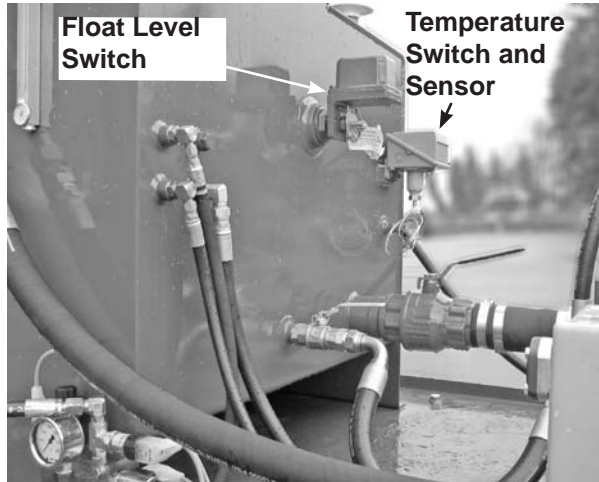
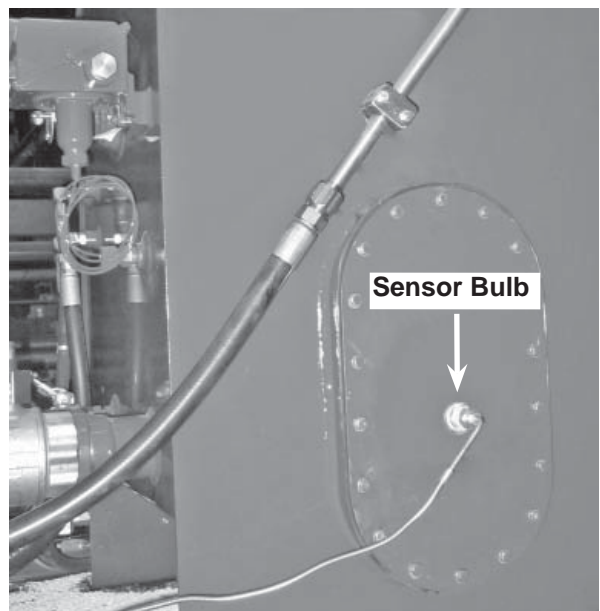

Figure 13 - Temperature and Float Level Switch
Figure 17 - Oil Temperature Sensor Bulb for Heat Exchanger
**Emergency motor stop and low oil shutdown** The emergency motor stop switch and low oil shutdown float switch (see Figure 13 page 6) are connected to control box terminals 15 and 16 (see wiring diagram 903057). Connect the motor starter power as shown on 903057 to place the switches in series with the motor control circuit.
**Oil Level Float Switch** An emergency low level float switch (see Figure 13) is installed to automatically stop the pump to protect it from damage in the event of line breakage or faulty maintenance. The low level float switch is connected as shown on 903057 wiring diagram.
The Oil Cooler uses the Temperature Switch sensor Shown in Figure 13. The Oil to Water Heat Exchanger uses the Sensing Bulb shown in Figure 17.